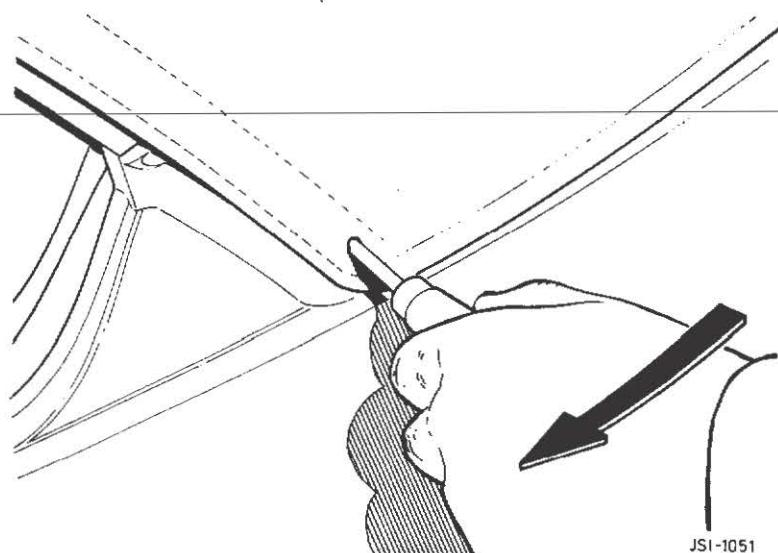

FIG 5
- 3.14 Fit the exterior hood finishers, initially by aligning the material and using a bradawl to locate the screw hole. Insert the screw and secure. When positioned the hood rim will fit up to the flange of the rear quarter glass seal (Fig 5). CAUTION: Ensure that a rubber cap, BDC 9031, is fitted over the point of each screw to prevent damage to the hood material when in the full open position.